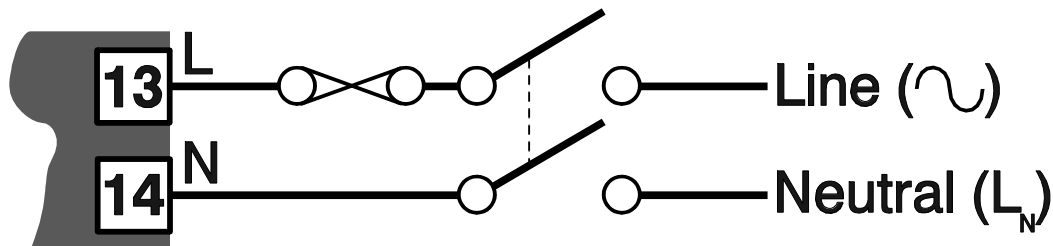

Figure 2-5 Mains (Line) Supply Connections
**CAUTION:** This equipment is designed for installation in an enclosure which provides adequate protection against electric shock. Local regulations regarding electrical installation should be rigidly observed. Consideration should be given to prevention of access to the power terminations by unauthorised personnel. Power should be connected via a two-pole isolating switch (preferably situated near the equipment) and a 1A fuse, as shown in Figure 2-5.